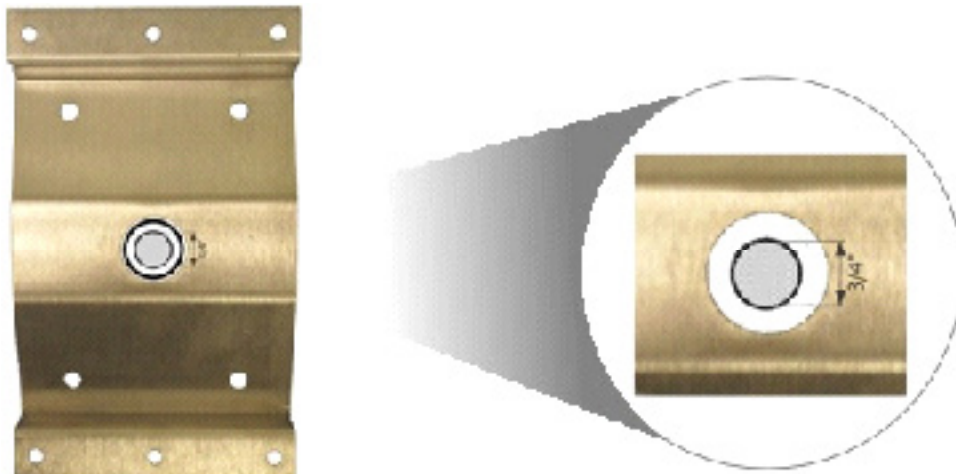

Figure 2
3. Remove the four screws (8-32 x .325) that attach the mounting bracket to the enclosure. Place the mounting bracket against the duct wall where the ELECTRA-flo/SD is to be mounted and trace the large probe insertion hole in the center of the bracket onto the duct. See Figure 2.